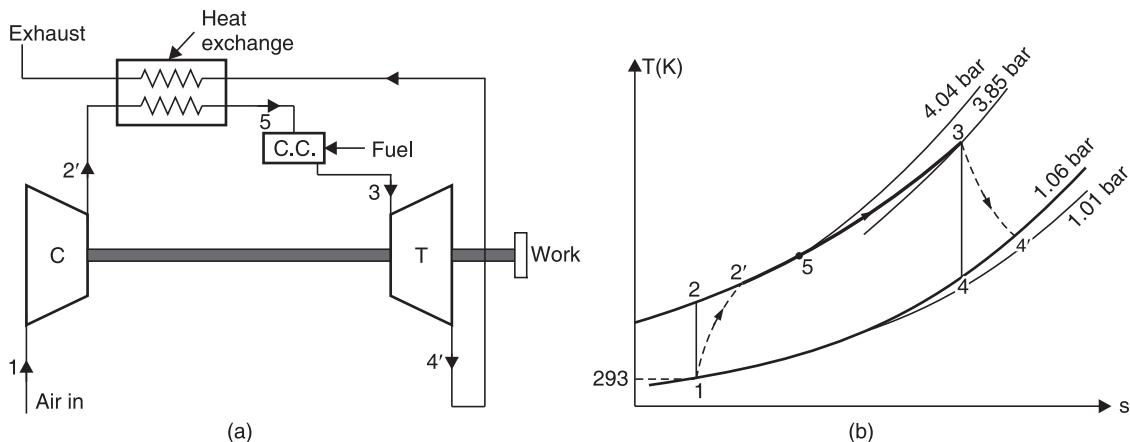

Fig. 4.63
**Heat Exchange Cycle.** Refer Fig. 4.63 (a), (b)